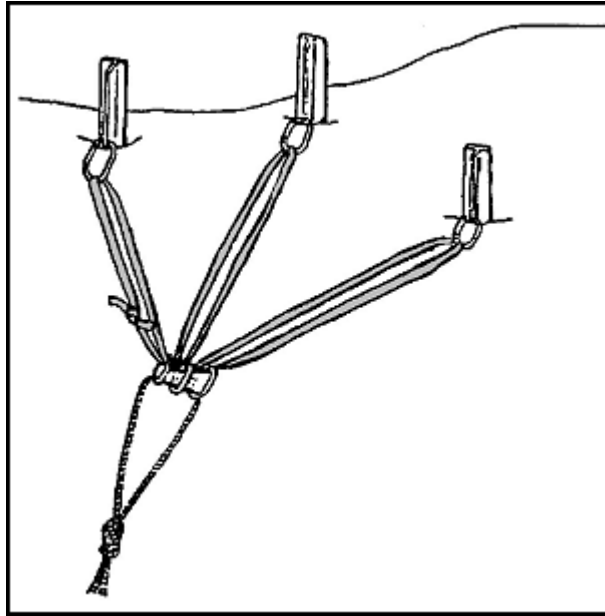

Figure 10-19. Equalized anchor using pickets.
(1) Whenever possible, two or more anchors should be used. While this is not always practical for intermediate anchor points on lead climbs or fixed ropes, it should be mandatory for main anchors at all belay positions, rappel points, or other fixed rope installations. (Figure 10-19 shows an example of three snow pickets configured to an equalized anchor.)
(2) As with multipoint anchors on rock, two or more snow or ice anchors can be joined together with a sling rope or webbing to construct one solid, equalized anchor. A bowline on a bight tied into the climbing rope can also be used instead of sling ropes or webbing.